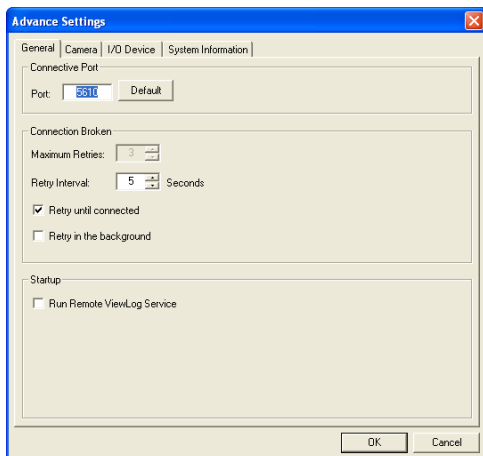

Figure 3-4
- **GV-System:** Enable the **Run Remote ViewLog Service** option in Figure 3-4, and start recording.